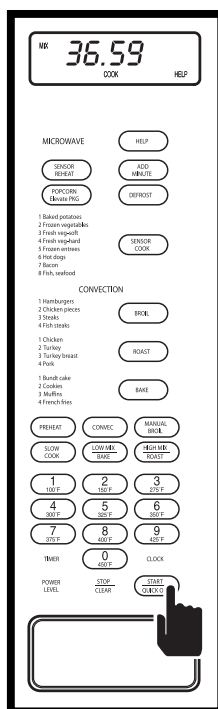

Figure 3-102.
4. Press **QUICK ON/START** key (See Fig 3-102).